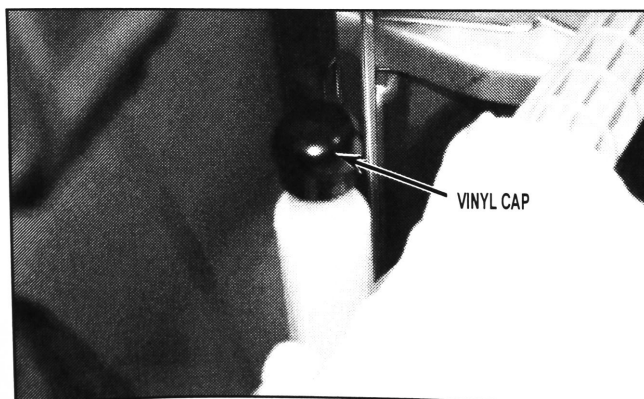

FIGURE 2
5. Push vinyl cap onto port on ventilation pipe. See *Figure 2*.